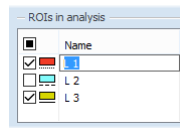

Figure 368 – Renaming the ROI with predefined name L3
3. Change the name directly in the list (see Figure 368).